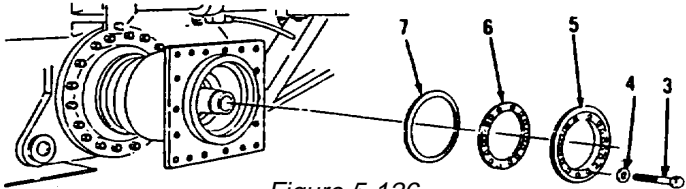

Figure 5-126.
2. Remove 16 bolts (3), washers (4), retainer (5), shim(s) (6) and washer (7, Figure 5-126). Tie shim(s) (6) together and tag for identification.